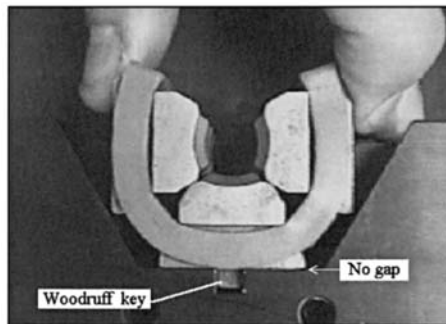

Fig. 5 – Crimp head completely closed.
7. Place the assembly into the crimper and hold it against the locator flag. **Only the ferrule should touch the flag.** Operate the screw (Item 1⁺) to close the dies to the full closed position. This will provide the proper compression to achieve a leak free crimp. When the crimp dies are bottomed out, there will be a slight gap between the two die holders (Items 5⁺ & 17⁺). This insures that the dies are fully closed before the holders bottom out (Refer to Fig. 5).